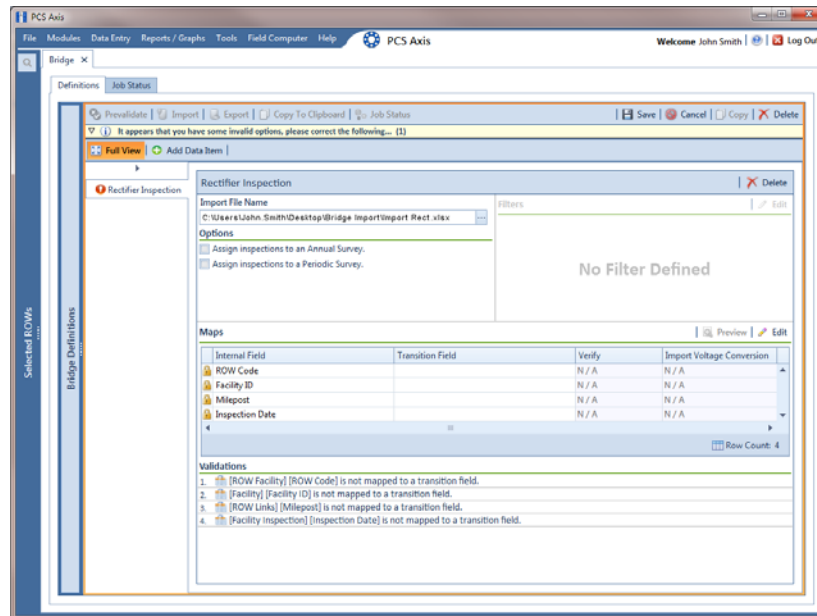

Figure 10-8. Definition
- 9 Identify the location of the import file using the following steps (Figure 10-8, page 461):
- 10** To assign inspections to a survey folder based on the inspection date, complete one or both of the following steps in the *Options* group box as required (Figure 10-8, page 461):